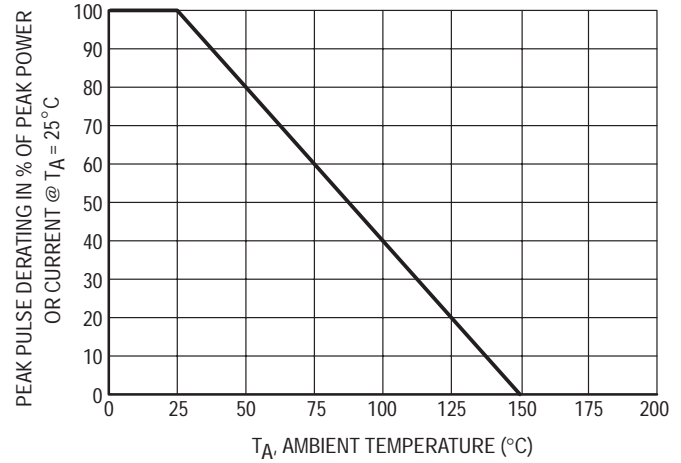
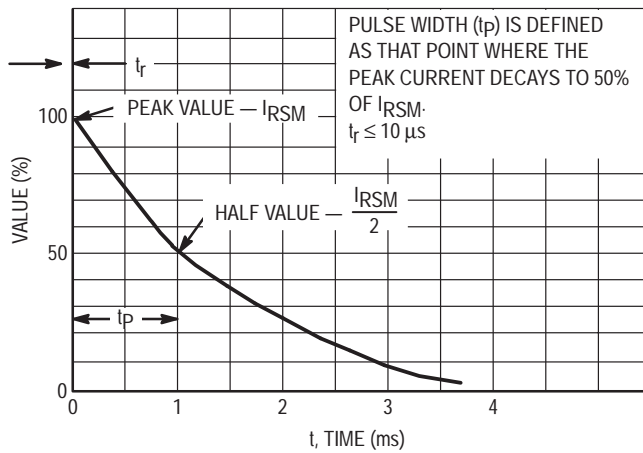
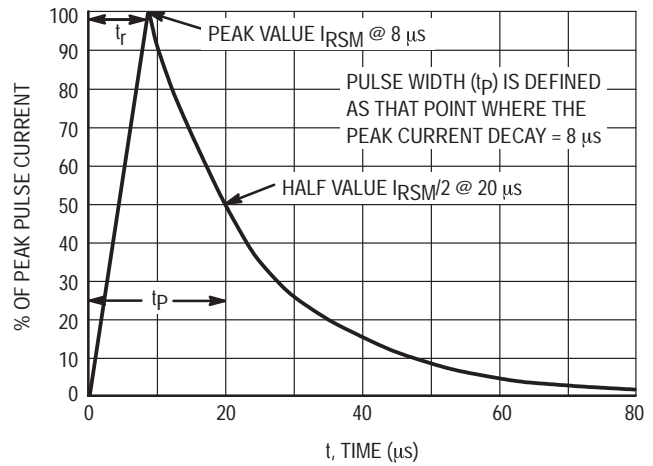

Figure 4. Pulse Derating Curve
Figure 5. 10 × 1000 μs Pulse Waveform
Figure 6. 8 × 20 μs Pulse Waveform
- Peak Power — Min. 24 W @ 1.0 ms (Unidirectional), per Figure 5 Waveform
- Peak Power — Min. 150 W @ 20 μ s (Unidirectional), per Figure 6 Waveform
1. Non-repetitive current pulse per Figure 5 and derate above $T_A = 25^\circ\text{C}$ per Figure 4.
2. Non-repetitive current pulse per Figure 6 and derate above $T_A = 25^\circ\text{C}$ per Figure 4.
(5) V_Z measured at pulse test current I_T at an ambient temperature of 25°C .
(6) Surge current waveform per Figure 5 and derate per Figure 4.
(7) Z_{ZT} is measured by dividing the AC voltage drop across the device by the AC current supplied. The specified limits are $I_{Z(AC)} = 0.1 I_{Z(DC)}$, with AC frequency = 1 kHz.